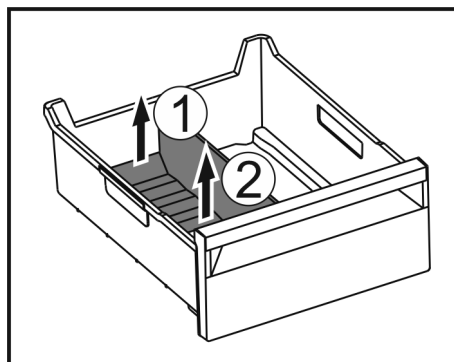

Fig. 138
- ▶ Lift the rear part of the ice compartment divider. Fig. 138 (1)
- ▶ Remove the ice compartment divider upwards. Fig. 138 (2)